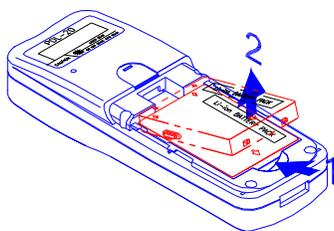

Fig 4
- c. Press the battery against the **TPL7000**, and lift it up and away from the compartment, as Fig 4 shows.
- a. Remove the battery from the battery compartment as shown in Fig 4.